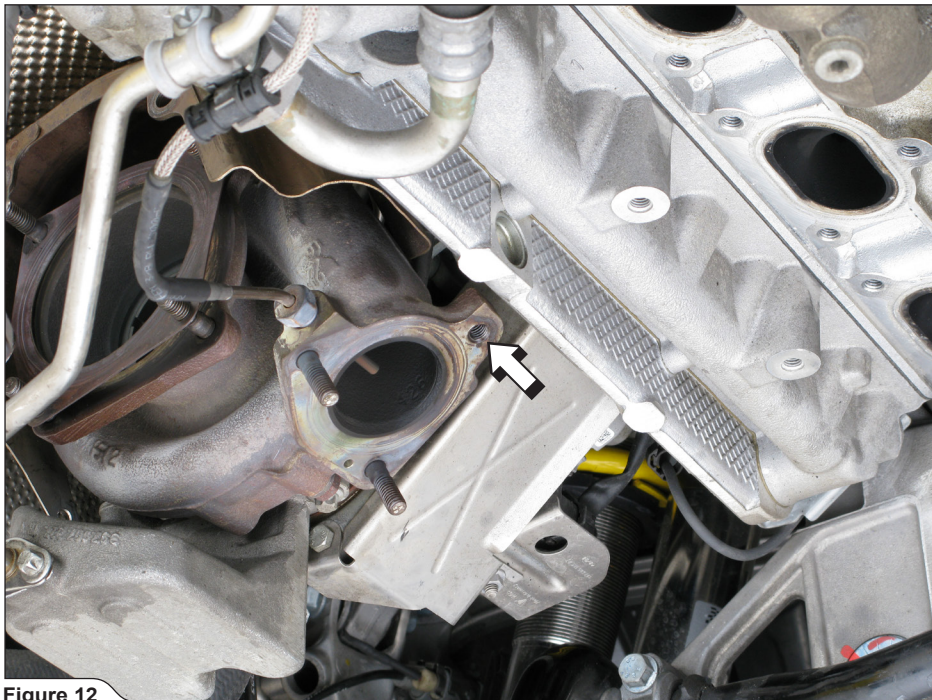

Figure 12
10. **For Evolution:** unscrew the marked double ended stud bolt from the left turbine (**Figure 12**).